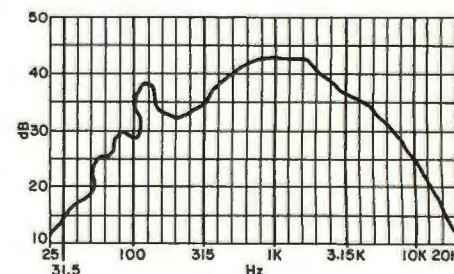
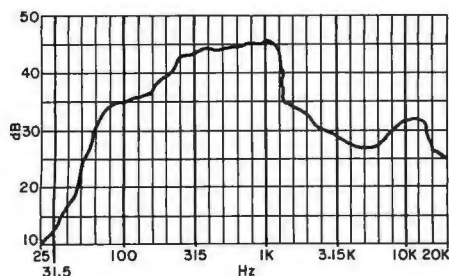

Fig. 1. Dynamic spectrum of a classical recording, measured on a real-time analyzer.
Fig. 2. Dynamic spectrum of a popular recording, measured on the same analyzer as Fig. 1.
**Matching the Music.** In my experience, tone controls are most useful for "correcting" sins of recording equalization that have been committed by similar circuits. How useful they are in every circumstance is another question. Shown in Fig. 1 is the spectral balance typical of a commercial symphonic recording during a loud orchestral passage. Steady percussion has raised the upper midrange levels somewhat, and the recording is on the bright side, but the overall shape of the curve is representative. Figure 2 shows the same kind of data for a typical pop recording.